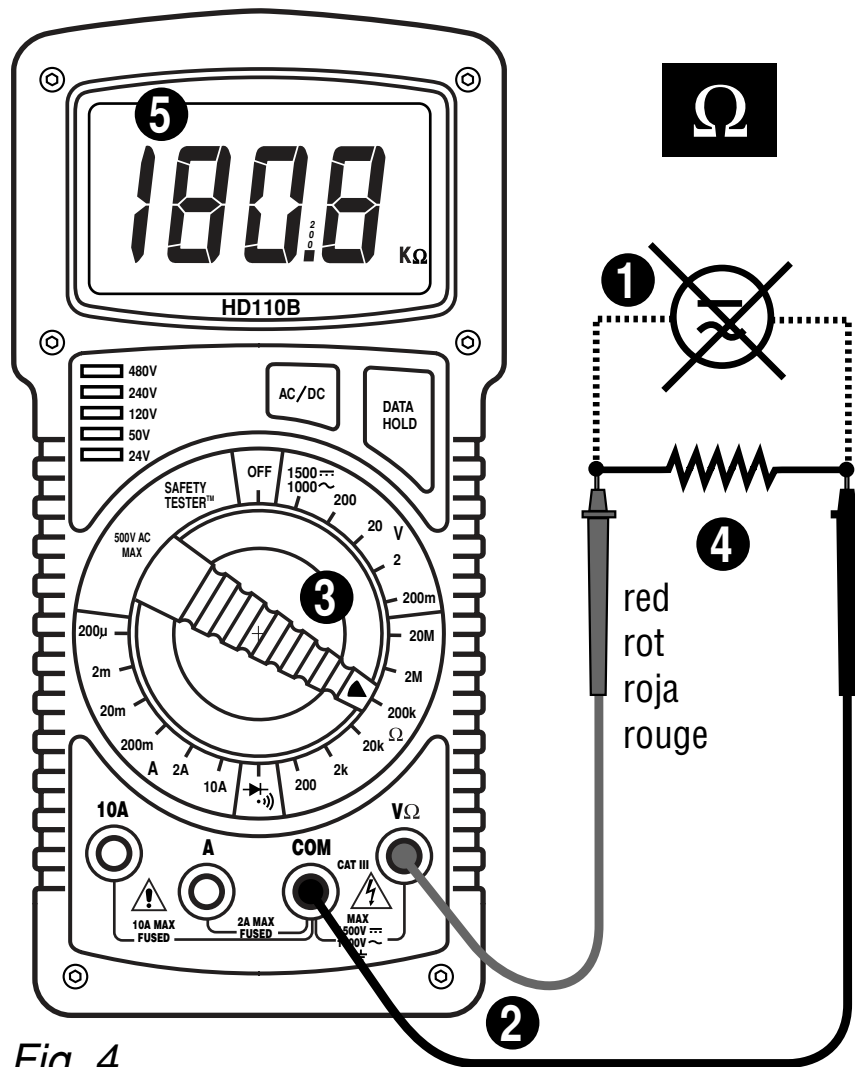

Fig. 4
## RESISTANCE MEASUREMENT (See Fig. 4)
❶ Turn off any power to the resistance to be measured and discharge any capacitors. Any voltage present during a resistance measurement will cause inaccurate readings. ❷ Connect test leads to the meter as shown in figure 4. ❸ Set Function/Range Switch to the desired resistance range. ❹ Connect test leads to circuit being measured. ❺ Read resistance value on Digital Display. Open circuits will be displayed as “1”.
### D • Widerstandsmessung (siehe Fig. 4)
### E • Medidas de Resistencia (vea Fig.4)
## F • Mesure de Résistance (voir fig. 4)